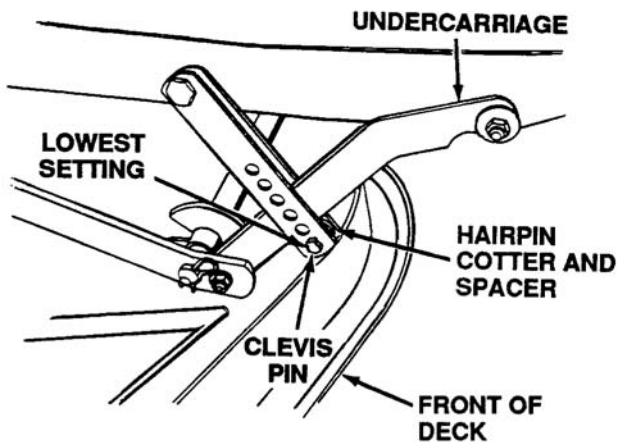

Figure 8-37. Deck Undercarriage
1. The clevis pins, spacers and hairpin cotters on the front of the undercarriage must be set in the lowest position. See Figure 8-37.